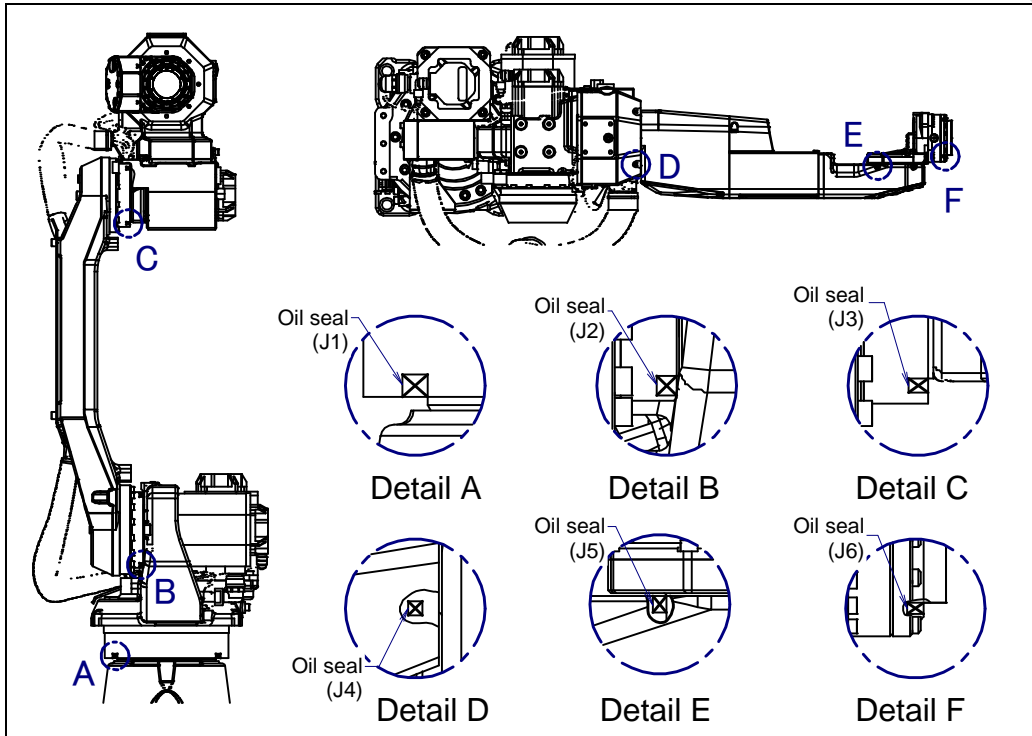

Fig. 1.2.1 (a) Check parts of oil seal
- Oil might accumulate on the outside of the seal lip depending on the movement condition or environment of the axis. If the oil viscosity changes, the oil might drip depending on the axis movement. To prevent oil spots, be sure to wipe away any accumulated oil under the axis components in Fig. 1.2.1 (a) before you operate the robot.